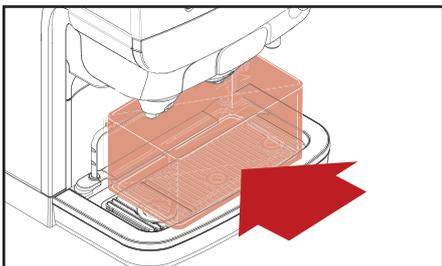

Fig. 5.7 - Place container
- Place the container (fig. 5.7) under the product outlets and press ← to start flushing.
8. Place the container (fig. 5.7) under the product outlets and press  to start flushing.